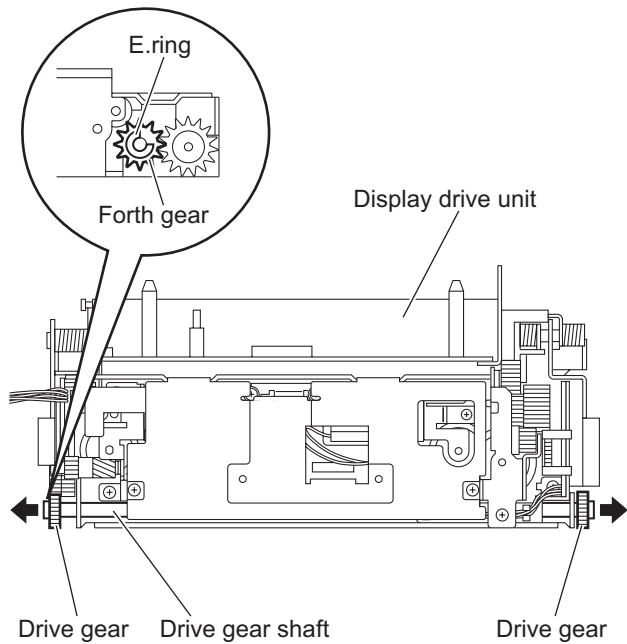

Fig.4
(2) From the top side of the display drive unit, pull the drive gears out of a drive gear shaft in the direction of the arrow while holding the drive gear shaft. (See Fig.4.)
Remove the drive gear shaft as required. (See Fig.4.)
(3) From the left side of the display drive unit, remove the E.ring fixing the forth gear. (See Fig.4.)
(4) Remove the forth gear toward this side. (See Fig.4.)